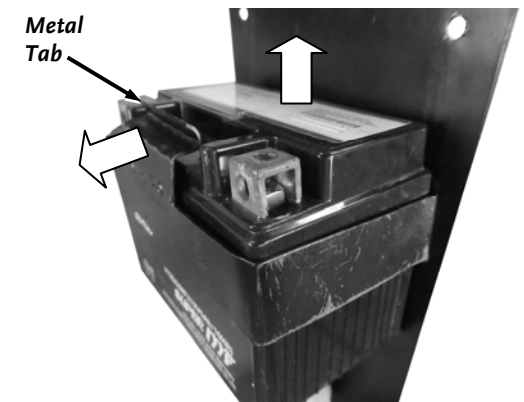

Figure 43
7. Push out on the metal Tab of the Battery Bracket and pull up on the Battery to remove it from the Bracket (**Figure 43**).